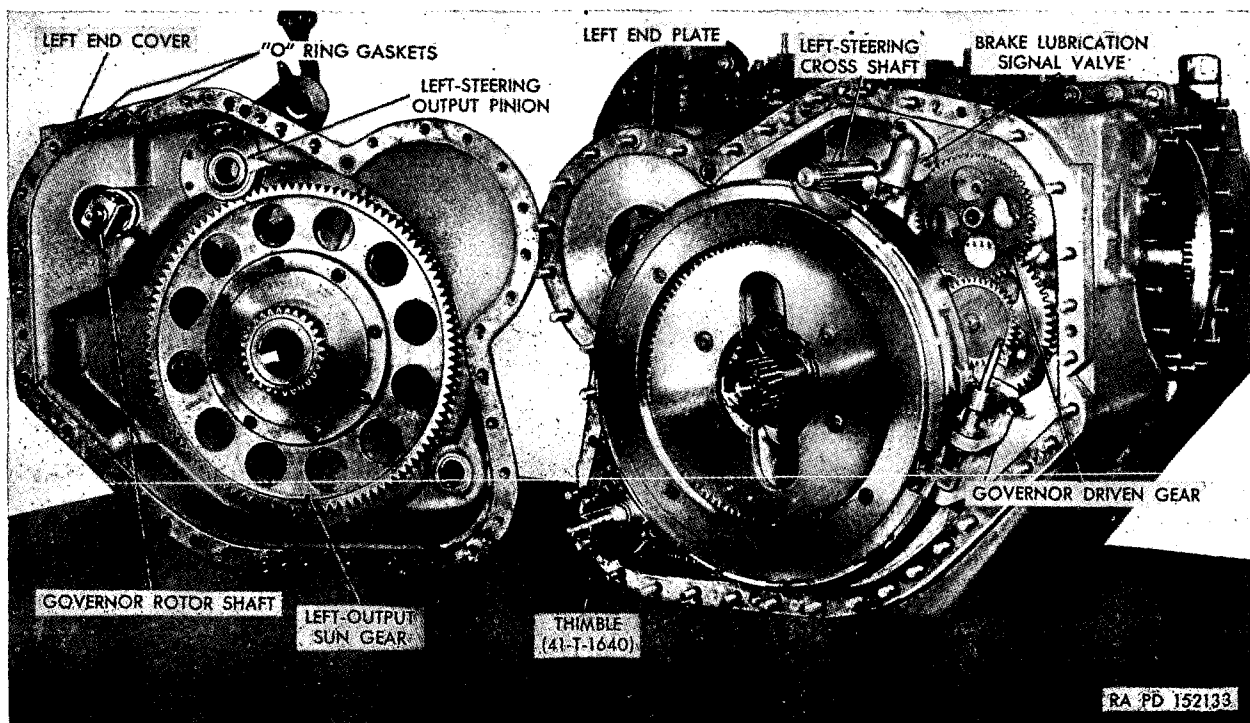

Figure 394. Thimble installed on left brake-apply shaft.
- (1) Apply sealing compound to the split line of the left end cover. Check to see that there are two "O" ring gaskets on the split line. Attach the hoist to the lifting eye of the left end cover and position it near the left end plate. Make sure the thimble (41-T-1640) is over the brake-apply shaft (fig. 394).
- (2) Install the left end cover, rotating the steering shafts in the rear of the transmission. This is done to engage the splines of the left steering cross shaft